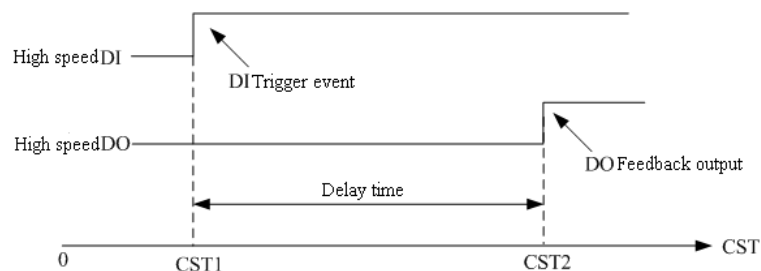

Figure 11.46: Delay sequence diagram
- The scheduled output function is to implement a delayed feedback control, where the DO output is controlled by the transition of the field DI signal. After a DI trigger event happens, DO is output after some delay, as shown in Figure 11.46.